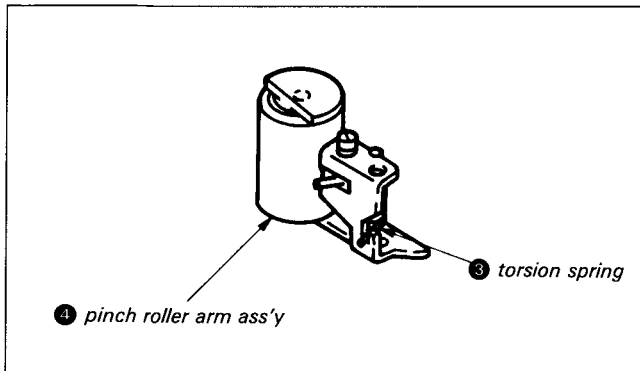

Fig. 7-19.
- 1) Position torsion spring ③. (See Fig. 7-19.)